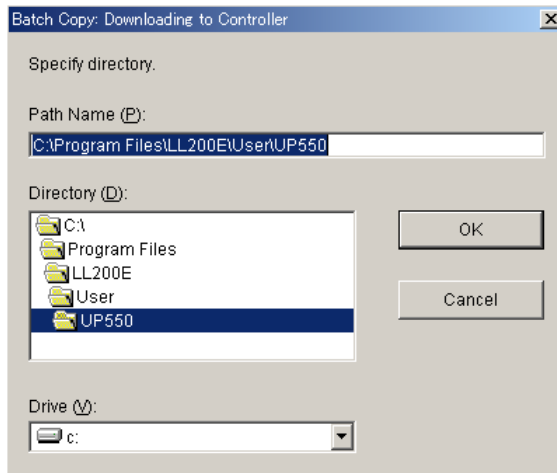

Figure 12.4.4 Batch Copy: Downloading to Controller Dialog Box
- (1) On the menu bar, click **Communication**, choose **Batch Copy**, and then **Download at a time**.
- (2) In the Batch Copy: Downloading to Controller dialog box (Figure 12.4.4) that subsequently opens, specify the directory where the data you wish to download is stored.